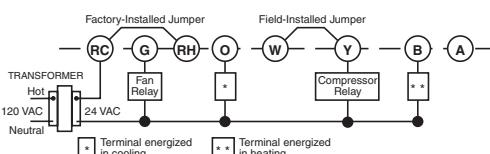

Figure 4. Typical wiring for single transformer, single stage heat pump system
- **Electric heat or single stage heat pump systems:** These thermostats are configured from the factory to operate a heat/cool, fossil fuel (gas, oil, etc.) forced air system. This is correct for any system that DOES NOT require the thermostat to energize the fan on a call for heat. If your system is an electric heat or heat-pump system that REQUIRES the thermostat to turn on the fan on a call for heat, remove the yellow factory-installed jumper wire from the **Y** terminal and connect it to the **A** terminal. This will allow the thermostat to energize the fan immediately on a call for heat. If you are unsure if the heating system requires the thermostat to control the fan, contact a qualified heating and air conditioning service person. For single stage heat pump applications (no auxiliary heat), install a short jumper wire (not included) across terminals **W** and **Y**. If the system has a reversing valve connection energized in Cooling, attach it to **O**. If the system has a reversing valve connection energized in Heating, attach it to **B** (see Fig. 4). This thermostat will not provide multi-stage heating or cooling.